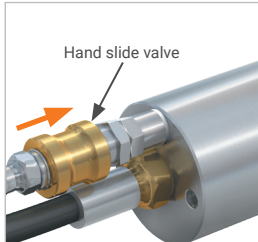

Figure 6
- ▶ Push the sliding sleeve of the hand slide valve (Pos. 6) to forwards (*Figure 6*). The pilot pressure is supplied. The elastic front seals (Pos. 7) or main seals (Pos. 8) are compressed, the connector tightens itself to the test piece and creates a pressure-tight connection.